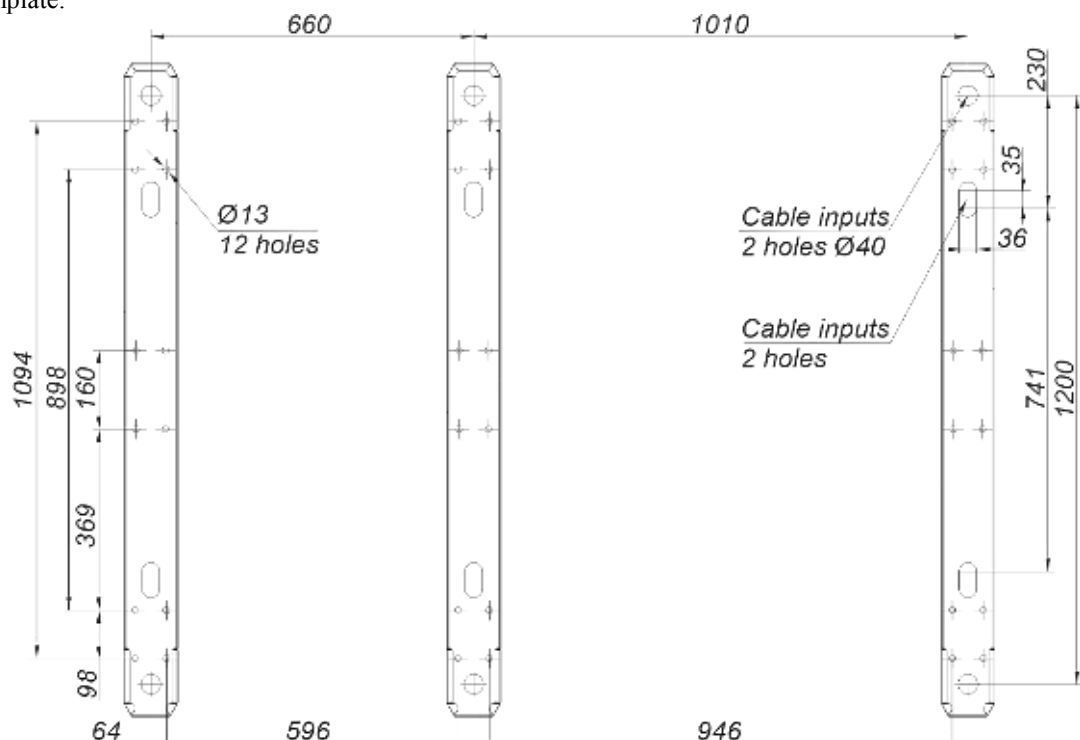

Fig. 16 – Installation dimensions of the "SWEEPER-S-BM-1" and "SWEEPER-S-BM-2" turnstiles set
- 5) The turnstile fixation holes to be marked on the area surface according to Figure 16. The turnstile it self can be used as a template.